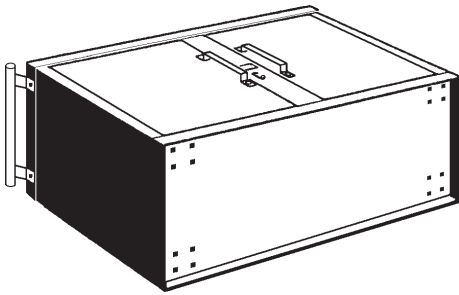
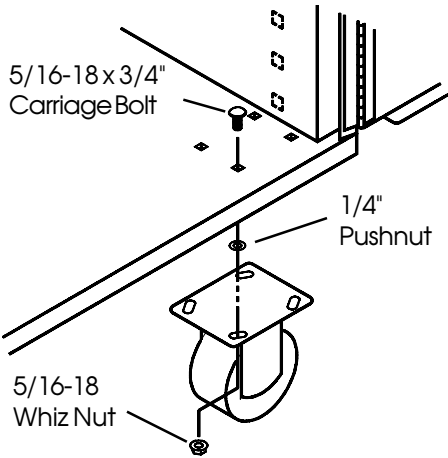

Figure 2. Caster Mounting Holes with Whiz Nuts. Repeat this for the remaining Casters.
Figure 3. Caster Mounting while pressing down on the right lever (B). Pull drawer clear on the slides.
2. Close the doors and lay the cabinet on its back onto the flattened shipping carton to prevent paint scratches (*Figure 2*). Mount the Swivel Casters on end you mounted the Push Handle. Insert a Carriage Bolt into a mounting hole, and push a Pushnut onto the bolt to hold it in place (*Figure 3*). Repeat this for the other three mounting bolts. Place the Caster over the bolts, then fasten